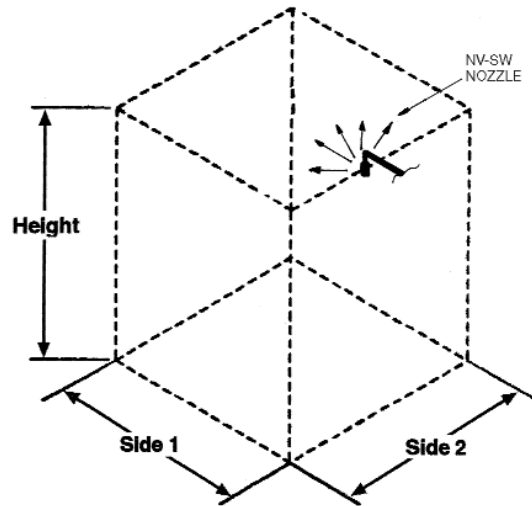

FIGURE 2
For sidewall application, the nozzle is to be mounted no greater than six (6) in. (15.2 cm) from both the ceiling and wall (see Note) with the discharge holes pointing towards the center of the protected area. See Figure 2.